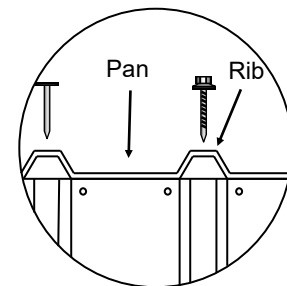

fig.2
- Using 4 x 50mm Clouts, pre-drill and nail the Roof Sheets to the Top Plates through the ribs, at each corner, ensuring ribs on the Roof Sheets line up with ribs on the Wall Sheets (**fig.2**).
- Screw the roof sheets to the front & back Top Plates, using 1 x Roofing Screw per rib. (**fig.2**).